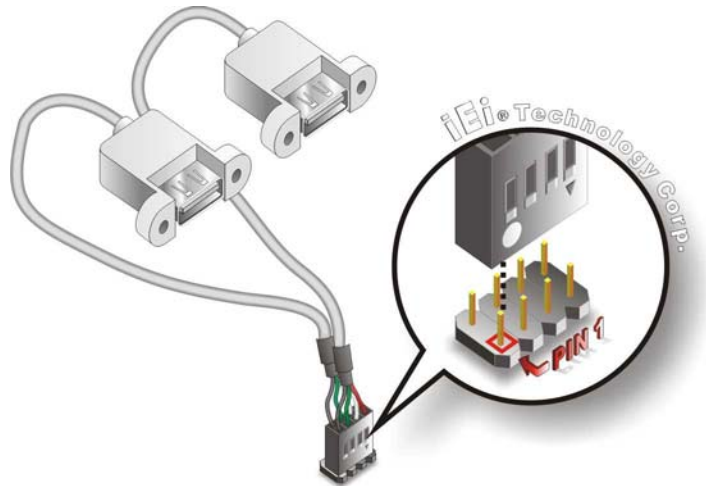

Figure 5-14: Dual USB Cable Connection
Step 3: **Insert the cable connectors.** Once the cable connectors are properly aligned with the USB connectors on the WAFER-LX3, connect the cable connectors to the onboard connectors. See **Figure 5-14**.